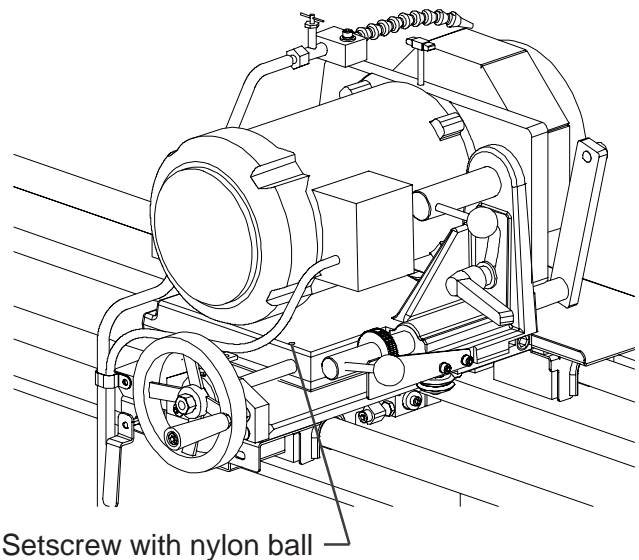

FIG. 35A
If there is backlash in the Grinder Head Infeed handwheel (FIG. 35A), there are two adjustment points on each to check:
2. Check the nylon ball tension on the adjustment shaft threads at the grinding head slide. See FIG. 35A. When you turn the handwheel there should be no free play in the handwheel before the grinding head slide moves. If there is free play, tighten the setscrew that pushes the nylon ball against the acme thread of the adjustment shaft. The nylon ball preloads the free play out of the threaded joint between the adjustment shaft and the tooling bar slide block. Apply tension only enough to zero the free play. DO NOT over tension as the adjuster will be difficult to turn.